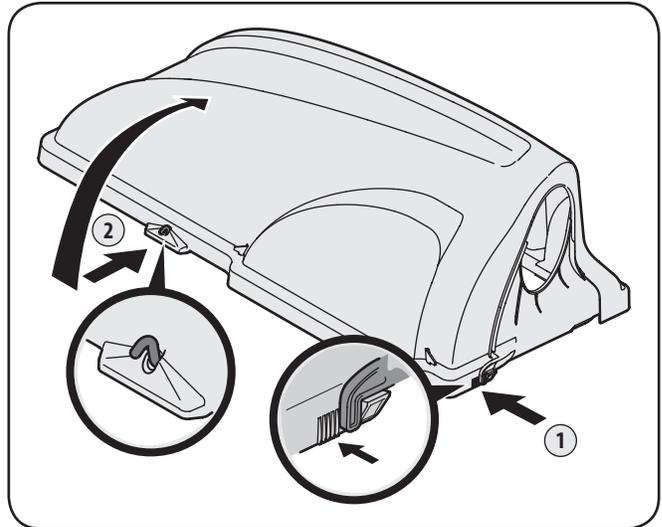

**Figure 4-12**
- Slide the hinge pin into the hole located on the mounting tab, as in Fig. 4-12. Use the cut-out window (See inset in Fig. 4-12) to line up the hinge pin on the other side and push pin all the way in until it reaches the end-stop. At this point the pin clips into place and is secured by a tab in the bagger cover. See Fig. 4-13.